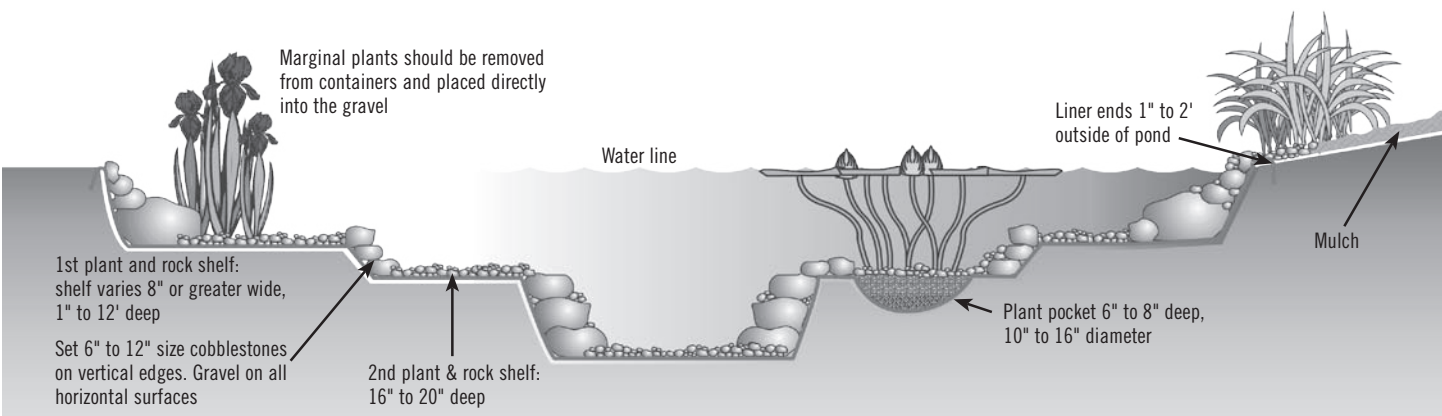

Fig. 8 Pond excavation - side view of plant pockets.
- Design your shelves wider in areas where you wish to place aquatic plants. (See fig. 8)
- Marginal and bog plants require a water depth up to about 10", so the top shelf is a perfect location for these plants. (See fig. 8)
- Water lilies will vary according to species, but a depth of 12-24" at the crown works best, so the second shelf or bottom of the pond will work great for the lilies. (See fig. 8)
- To make planting lilies easier add a few 'lily pockets'. These pockets are simply depressions or bowls cut into the soil 6-8" deep and 10-16" in diameter. The goal is to create a natural looking pond, and this is possible only if plant pots are eliminated or completely hidden. (See fig. 8)